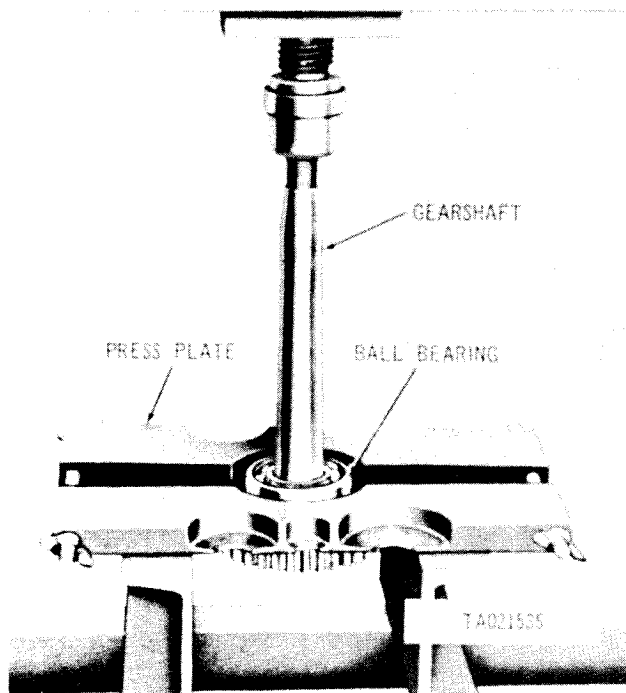

Figure 3-233. Removing fuel injection pump gearshaft ball bearing.
(7) Position fuel injection pump gearshaft (fig. 3-233) in arbor press and press gearshaft from ball bearing using press plate to support bearing.